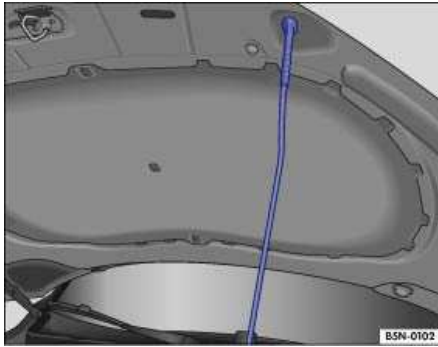

Fig. 6 Engine hood support opening in the engine hood
- Remove the engine support from its opening in the engine hood ⇒ Fig. 6.